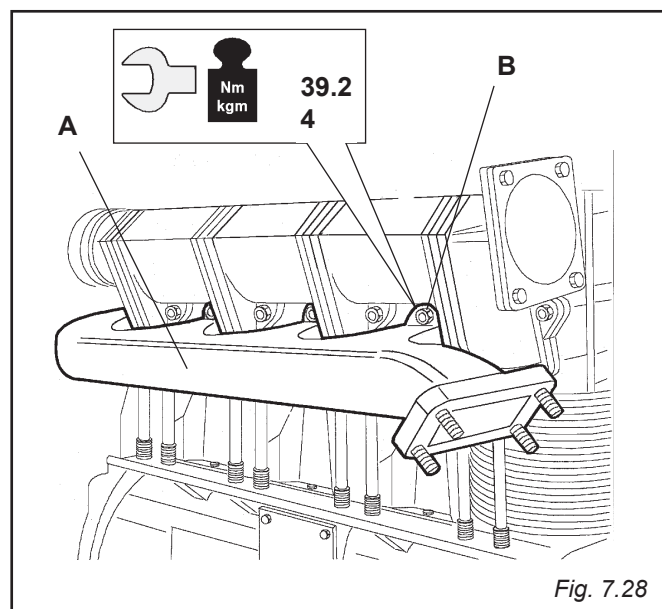

Fig. 7.28
7.29 EXHAUST MANIFOLD (FIG. 7.28)